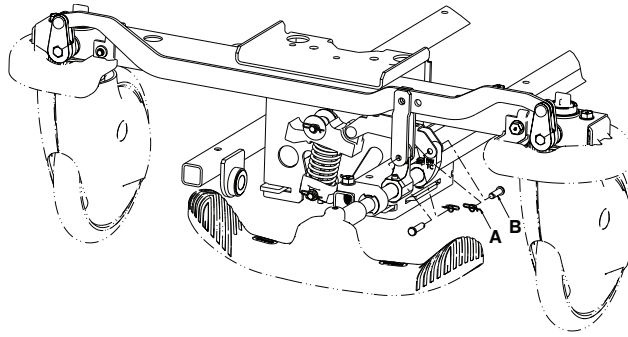

Figure 5 – Brake cam and link assembly
3. Using needle nose pliers, remove the rue ring cotter (A) and clevis pin (B) that secure the brake cam and link assembly to the brake rod (Figure 5).